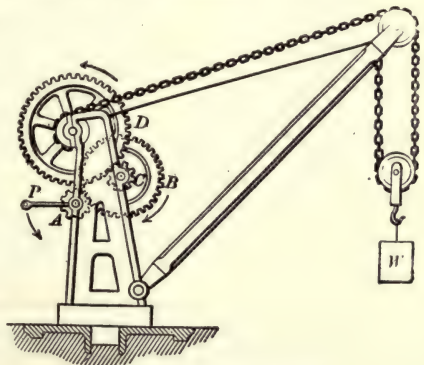

FIG. 37. — Builder's crane.
into its elements, let us, as it were, dissect a crane or derrick (Fig. 37) such as is used in unloading freight cars, or in hoisting building material into place.
11. In the crane shown in figure 37, the weight W is 5 tons, and the radii of the three small cogwheels are supposed to be equal and each $\frac{1}{4}$ the radius of the crank P and of the wheels B and D , which are also equal. What is the mechanical advantage of the whole machine, and what force, neglecting friction, must be applied at P ?